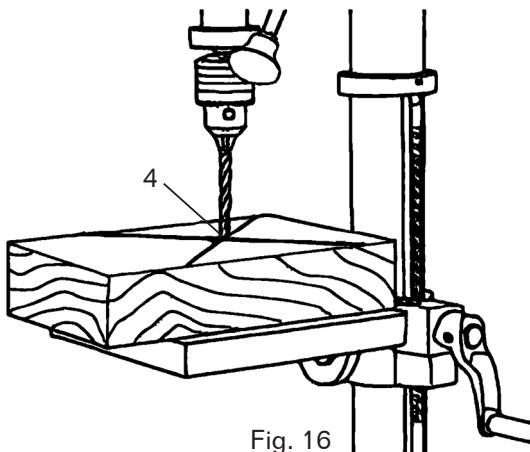

Fig. 16
3. Lower the drill bit to meet the workpiece (Fig. 16 - 2). The two laser lines should cross where the drill meets the workpiece.